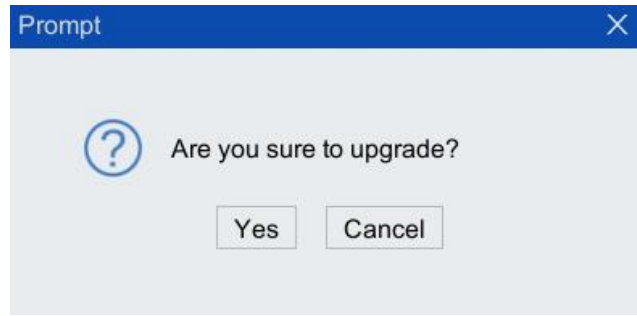

Figure 8-47 "Are you sure to upgrade?" dialog box
Step3. After "Are you sure to upgrade?" dialog box in Figure 8-47 pops up click <Yes> button to pop up the upgrade progress bar. The CCB file upgrade will take about 1 min.